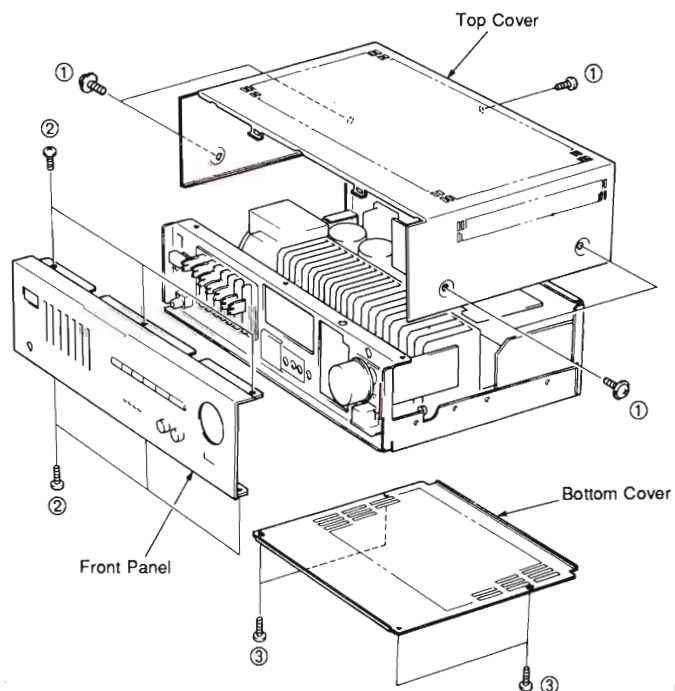

Fig. 1
Remove 5 screws (①) in Fig. 1, and slide the TOP Cover back.
Remove 6 screws (②) in Fig. 1, and pull the Front Panel forward.
Remove 4 screws (③) in Fig. 1.